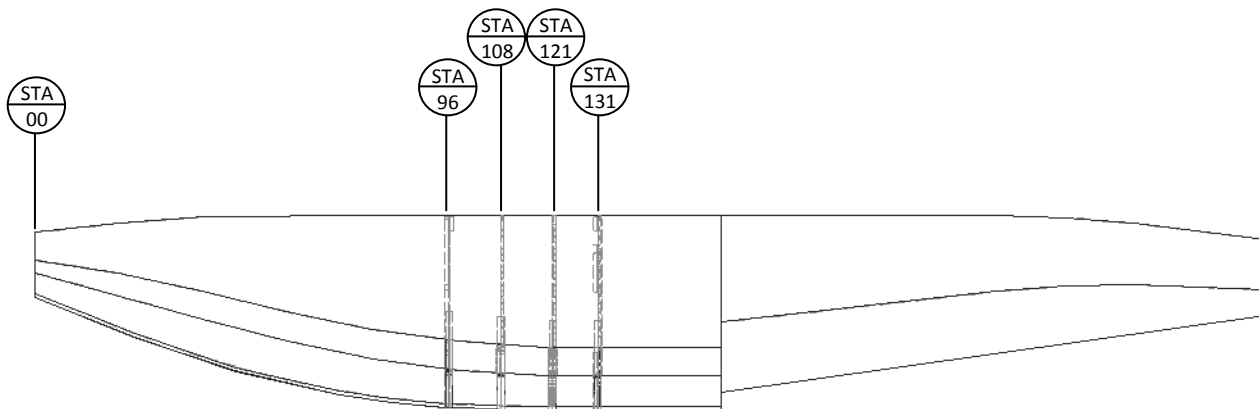

FIGURE 1: AFFECTED BULKHEAD FLOAT STATION LOCATIONS
Aircraft equipped with Wipline model 10000 amphibian floats and regularly operated in rough water may experience cracking of the forward and aft lower bulkhead flanges located in the baggage area of the float as indicated in Figure 1. This service letter and associated kit reinforce the lower bulkhead flanges to reduce probability of cracking as a result of operations in rough water.
- 1) Remove the top deck covers and open baggage hatches to gain access to the affected bulkheads shown in Figure 1. Remove baggage hatch floors to gain access to lower bulkhead flanges.
- 5) One doubler at a time; apply PR1422 sealant completely to mating faces of doubler, bulkhead, and bottom skin, then rivet appropriate doublers as called out in the Parts List and Figures 2-5 to the forward and aft lower bulkhead flanges and bottom skin using MS20470AD4 rivets, grip as required. Perform this operation at bow bulkheads indicated in Figure 1. Drive rivets while sealant is wet.